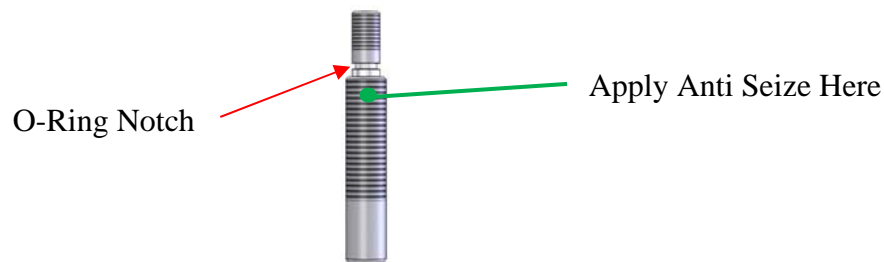

Figure 26: Adjustment Screw O-Ring Notch
1. Lightly apply a small amount of anti-seize to the threads of the adjustment screw. See Figure 26.
6. Carefully place the adjustment screw o-ring onto the adjustment screw, making sure not to cut the o-ring. The o-ring should reside in a notch groove below the upper threads of the adjustment screw. See Figure 26.
2. Carefully place the adjustment screw o-ring onto the adjustment screw making sure not to cut the o-ring. The o-ring should reside in a notch groove below the upper threads of the adjustment screw. See Figure 26.